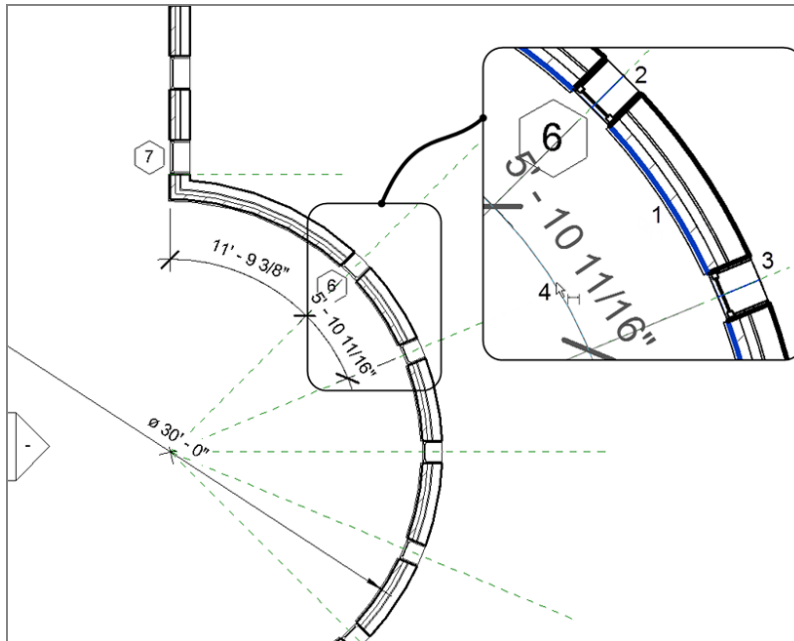

FIGURE 5.23: Adding a second arc length dimension
5. Pick a point to place the dimension (see Figure 5.23).